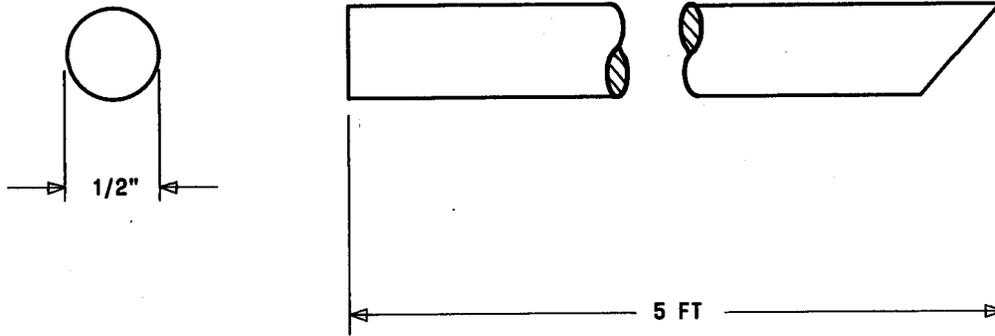

Fig. 1—E Ground Rod (AT-8985)
2.01 The E ground rod (AT-8985) is a 5-foot length of round (1/2-inch diameter) galvanized steel rod which is beveled at one end, as shown in Fig. 1. The bevel at one end of the ground rod allows the rod to be driven into the ground under most soil conditions.